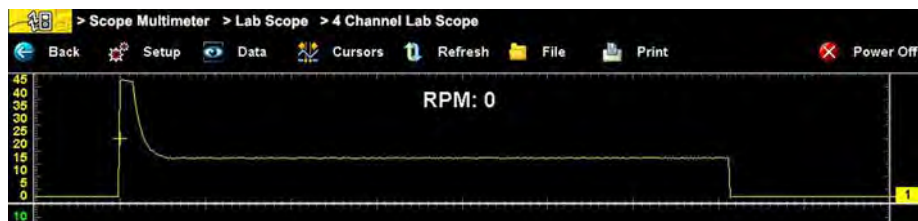

Figure 8-18 Sample Show RPM selected
- **Show RPM**—adds an engine speed field at the top of the screen (Figure 8-18).